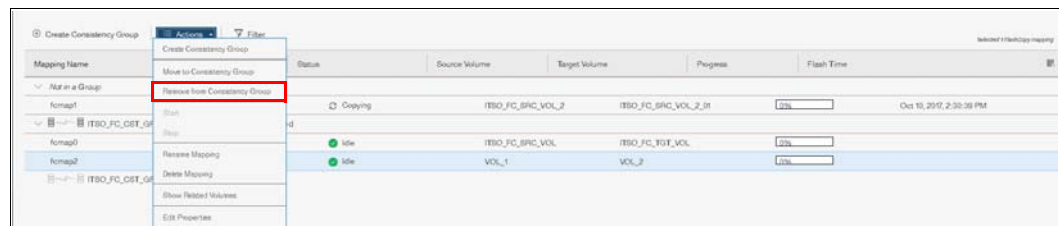

Figure 10-55 Remove from Consistency Group action
3. Click **Actions** → **Remove from Consistency Group**, as shown in Figure 10-55.